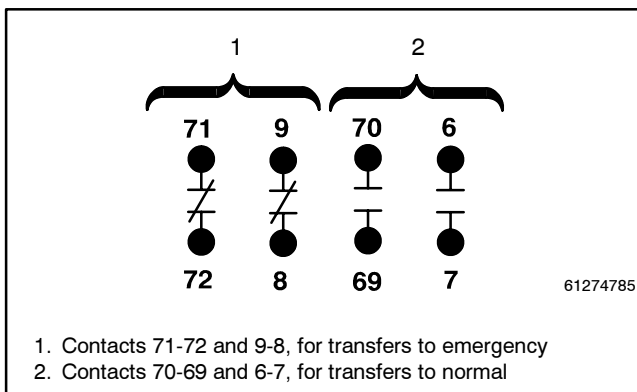

Figure 5-4 TS Coil Control Contact Positions when the Transfer Switch is in the Normal Position
- a. Refer to Figure 5-4 and Figure 5-6. Two sets of contacts interrupt the control current to the operator coil (TS) in each direction (transfer to emergency and retransfer to normal). In Figure 5-4, the transfer switch is in the Normal position and the coil control contacts for the emergency side are closed, ready to allow current to flow to the TS coil to transfer to the Emergency source if the controller signals for transfer.